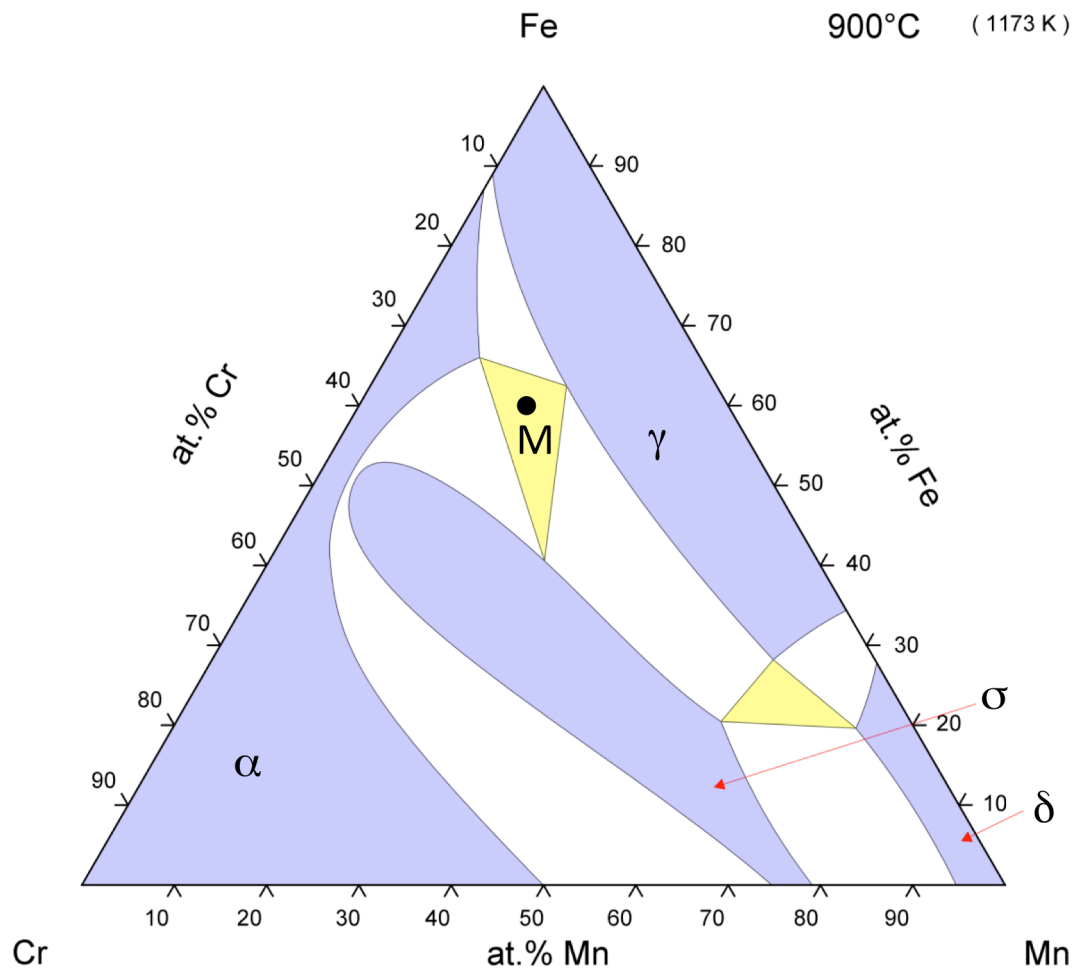

Figure 2: Isothermal section from the Cr-Fe-Mn phase diagram at $T = 900^{\circ}\text{C}$.
2. (30 points) Shown in Figure 2 is an isothermal section from the Cr-Fe-Mn phase diagram at a temperature of $T = 900^\circ\text{C}$. The diagram contains single-phase regions for α (bcc solid solution), γ (fcc solid solution), σ (intermetallic phase) and δ (solid solution with the α -Mn structure) phases.
- a. (15 points) On Figure 2 label the two phase and three phase regions. Your labels should indicate the phases present in each of the regions (e.g., $\alpha + \gamma$). In the two-phase regions draw plausible tie lines (at least five for each region, roughly equally spaced).
- b. (15 points) For the point marked M in Fig. 2, determine: